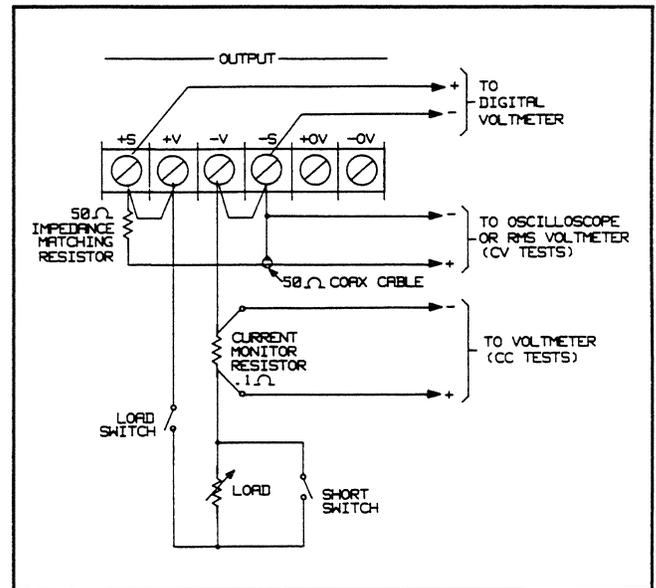

Figure 3-3. Basic Test Setup
- a. Turn off the supply and connect the output to be tested as shown in Figure 3-3 with the DVM connected between the + S and - S terminals, the Load switch closed, and the Short switch opened.
- Connect the output to be tested as shown in Figure 3-3 with the DVM connected between the + S and - S terminals, the Load switch closed, and the Short switch opened.
- Turn off the supply and connect the output to be tested as shown in Figure 3-3 to an oscilloscope (ac coupled) between the + S and - S terminals, the Load switch closed, and the Short switch opened. Be sure to keep the leads from the 50 ohm coaxial cable shield that run to the + S and - S terminals as short as possible to avoid external noise pickup.